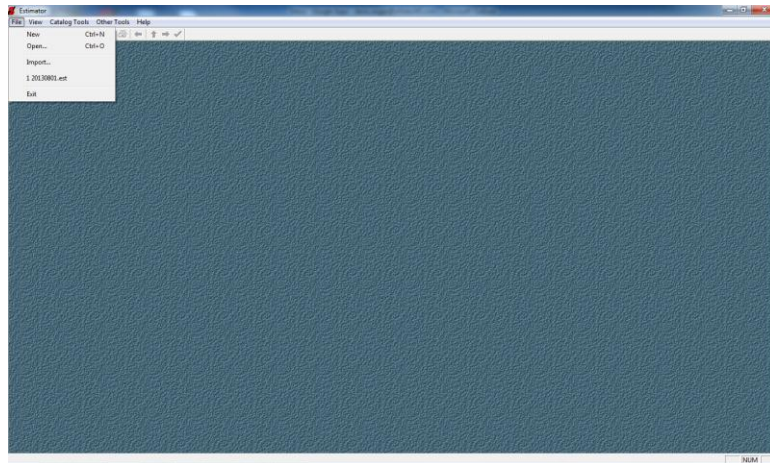

Figure 4-2. Estimator File Menu
1. Select the **File** menu. Estimator displays the **File** menu, which contains commands relating to files (see Figure 4-2).